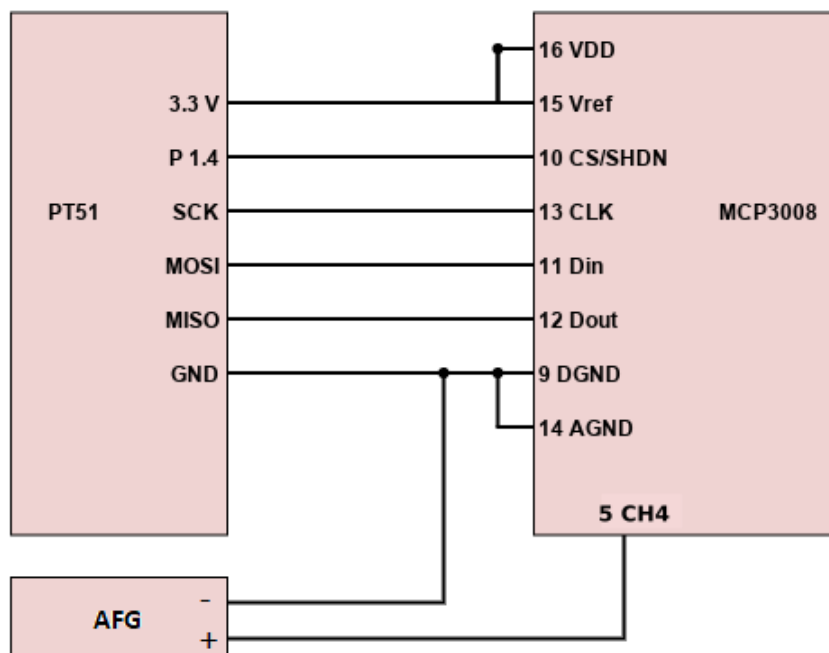

Figure 2: Pt51 interfacing with AFG and ADC
- Make the connections as shown in Figure 2. Note that the output of the AFG is connected to **CH4** of the ADC.